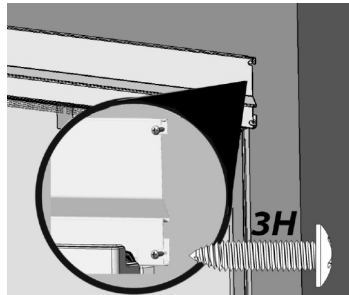

Fig. 22
- b. Drill $\frac{1}{8}$ " pilot holes and fasten two 3H screws on the right side of the Top Trim (one screw per side for Collared top trim) with a Phillips screwdriver to the cabinets (Fig. 22).